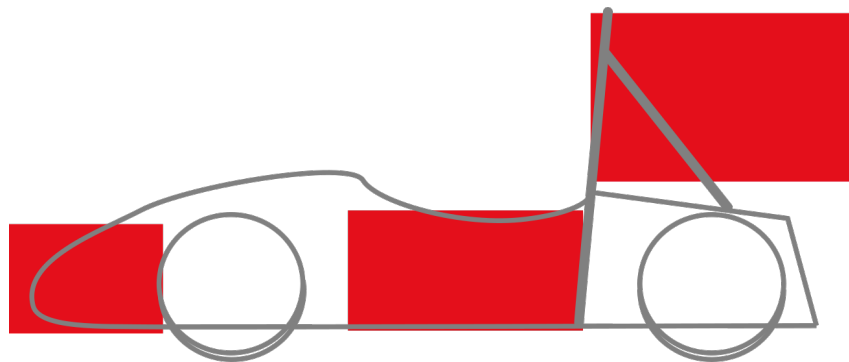

Figure 1: RFID Tag Placement Areas
- DE5.11.1 In order to have the vehicle be identifiable during dynamic disciplines, Timekeeping will stick three RFID tags to the vehicle. There will be one tag on the front, center and rear of the vehicle. They will all be on the left side (as shown in figure 1).